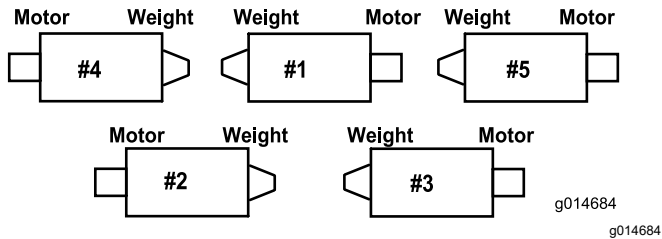
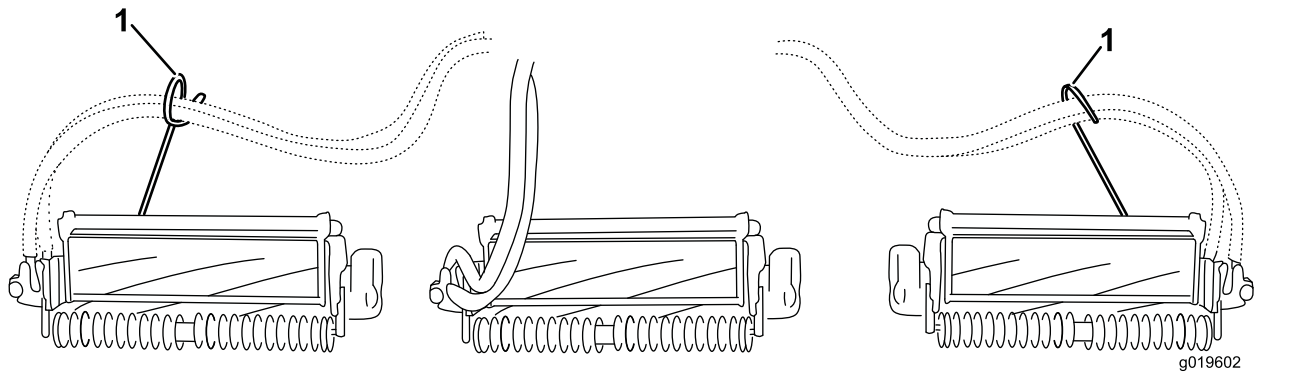
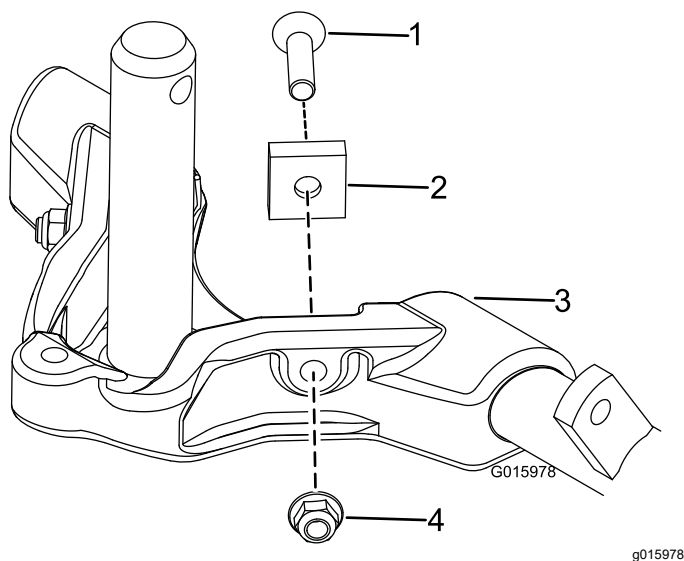

Figure 12
Figure 14
Figure 15
Important: On the #4 (left front) and #5 (right front) cutting units, use the rod bracket mounting nuts to install the hose guides to the front of the cutting unit tabs. The hose guides should lean toward the center cutting unit (Figure 12 through Figure 14).
6. Increase the steering on the rear cutting units by removing the (2) pivot spacers, hex socket screws and flange lock nuts (Figure 15) from the rear (#2 and #3) cutting unit carrier frames (Figure 12).